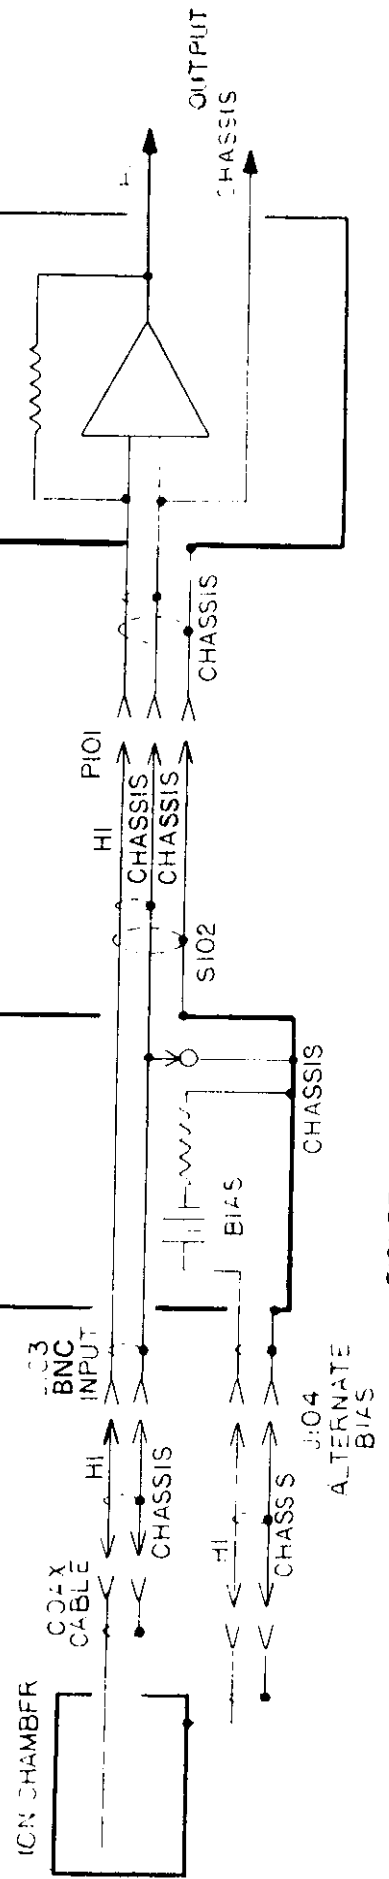

FIGURE 2. OPERATING MODES
2. The 6169 and electrometer should be connected to "earth ground or safety ground" through the third wire of the power cord on the electrometer. Since the electrometer may be floated up to 1000 volts above earth ground, care should be taken when handling connectors and cables connected to either the electrometer or 6169. See Figure 2 for typical interconnections for BNC and TRIAX modes.
1. The two modes of operation of the 6169 are shown in Figure 2.
b. 6169 Control Settings (Refer to Figure 2).